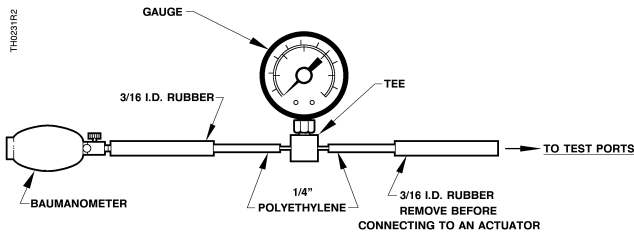

Figure 2. Pressure Gauge Assembly.
- Pressure gauge assembly (see Figure 2)
3. Construct pressure gauge assembly as shown in Figure 2.